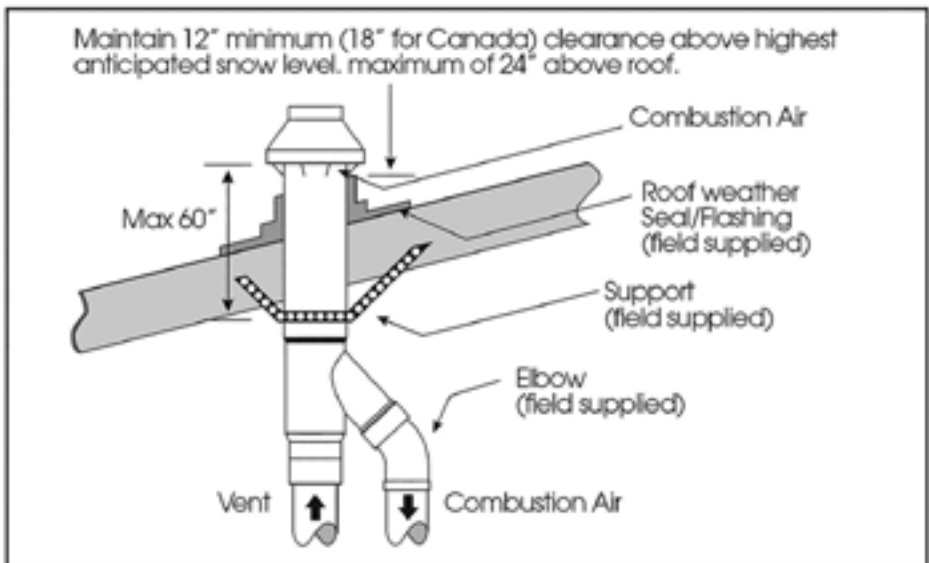

Figure 3: Typical Roof Install
6. Install "Y" fitting and pipe assembly through hole and roof boot/flashing (user supplied, Figure 3).
7. Secure to roof (Figure 3) using metal strapping or equivalent support material (user supplied).
10. Refer to Figure 3 for proper pipe attachment.